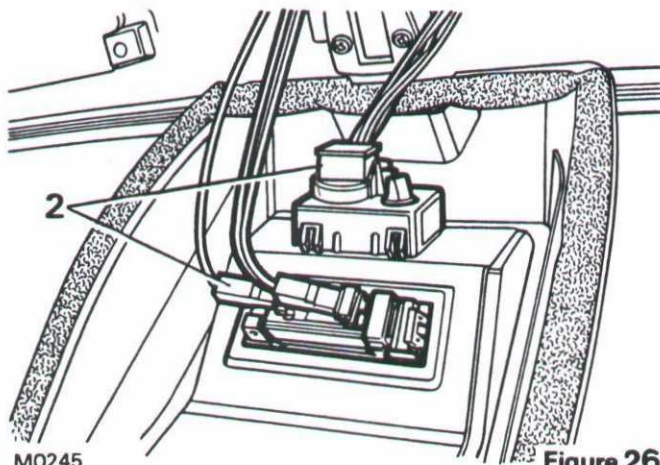

Figure 26
1. Remove two retaining screws, detach console from front mounting bracket and swing down as shown in Figure 26.